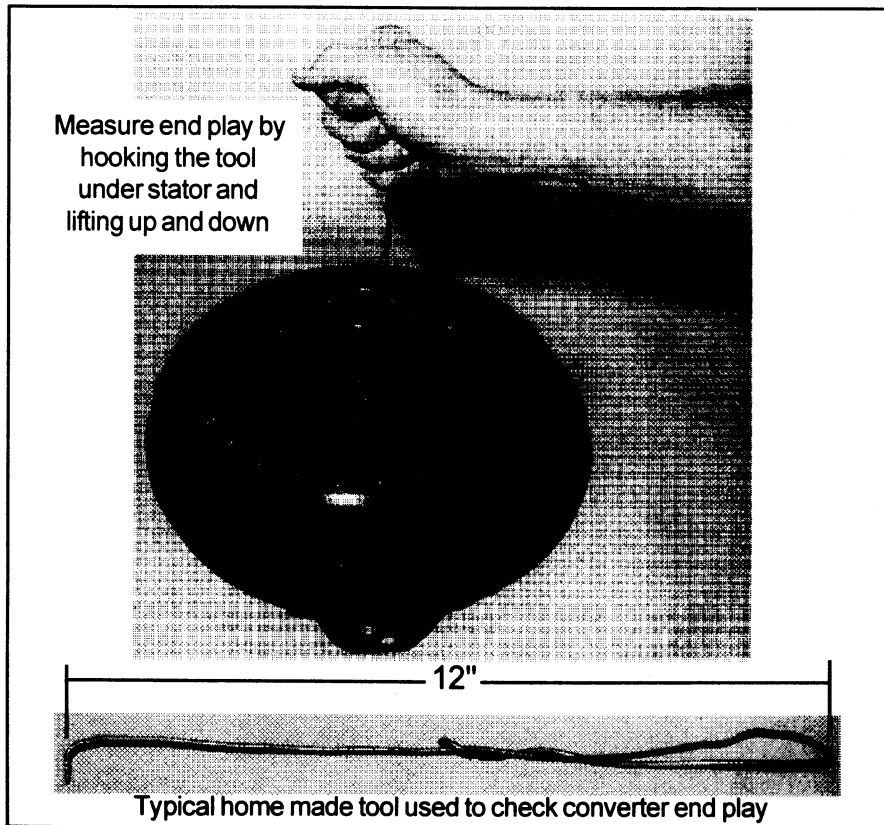

Figure 9
**Ballooning:** Ballooning is expansion of the torque converter along the axis of rotation (front to back). This is caused by high rpm use and/or continuous wide open throttle stall speeds. A ballooned converter can lose thrust washer piloting and must be cut open for repair. You can check for ballooning by measuring the end play clearance of the stator and turbine (see fig. 9). You will have to make a hooked tool to grab the stator or turbine (see fig. \*\*). Maximum stator or turbine end play is .050 inch. If stator or turbine end play exceeds .050 inch the converter will have to be re-